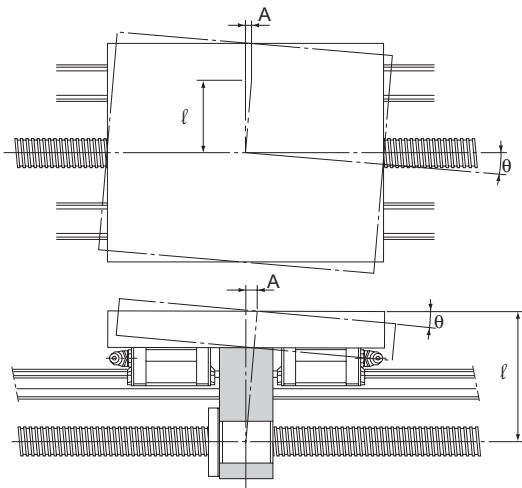

Fig.12
- ℓ : Vertical (or horizontal) distance from the ball screw center (mm) (see Fig.12)